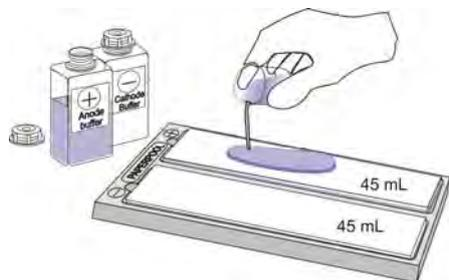

Fig. 4.2
4. Apply 45 ml of each electrode buffer to the respective electrode wick in the compartments of the SERVA PaperPool (fig. 4.2), distribute the solution evenly with a roller, .